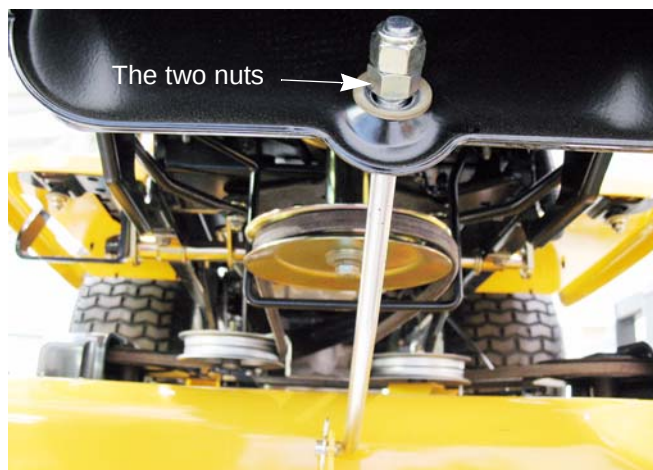

Figure 8.29
3. Working at the front of the tractor, loosen the two hex lock nuts at the front of the deck hanger rod. Thread the lock nuts away from the hex nuts behind them. See Figure 8.29.